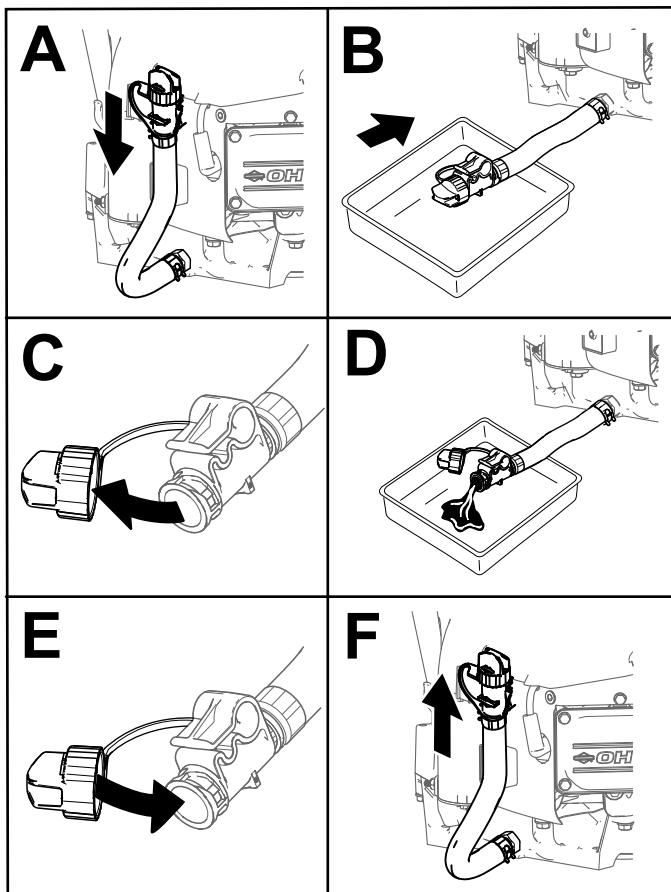

Figure 43
4. Drain the oil from the engine (Figure 43).